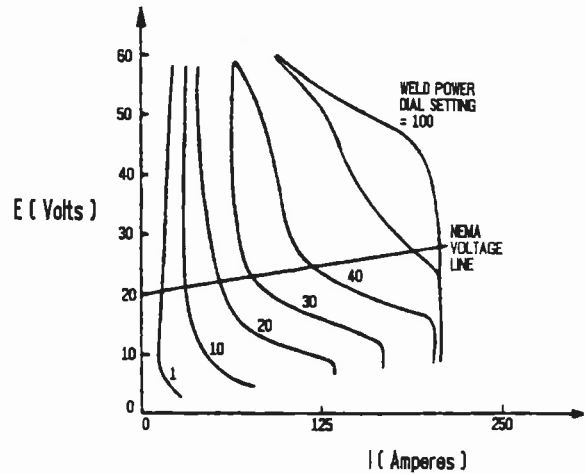

Figure 6, Volt/Amp Characteristic Curves for Range 1
B) Locate the C.F. assembly inside the unit as shown in Figure 6. The C.F. assembly can be identified by two aluminum heatsinks which contain three diodes each.